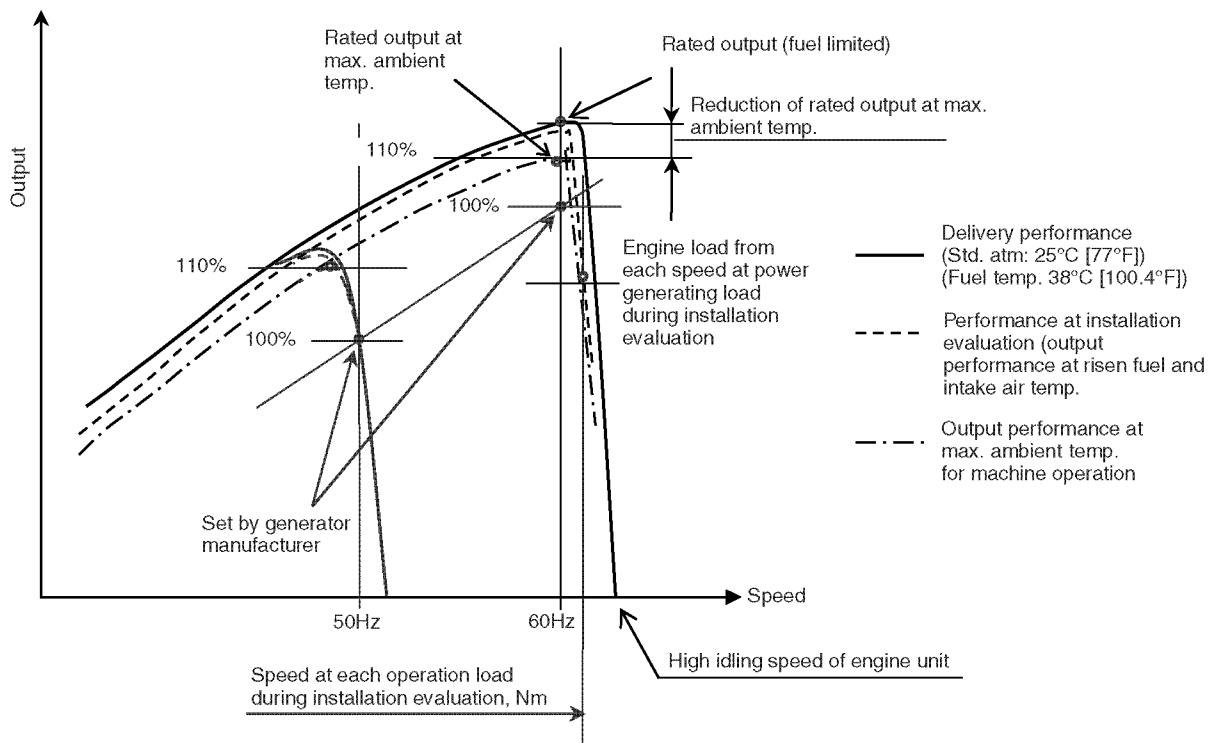

Figure 12-16
The load of the machine has already been measured at the output matching test *Evaluation of Machine Load on page 12-23*. Plot the load on the performance curve shown with dot-and-dash line in **(Figure 12-16)** to perform the following examination.
- Check whether the load at the rated output of generator that is measured at the output matching test is equal to or less than the engine's continuous rating obtained from the estimated performance curve (dot-and-dash line) at the maximum ambient temperature shown in **(Figure 12-16)**.
- Check whether the load at the output 110% of the generator's rated output that is measured in the output matching test is equal to or less than the engine's rated output that is obtained from the estimated performance curve (dot--and-dash line) at the maximum ambient temperature which is shown in **(Figure 12-16)**.